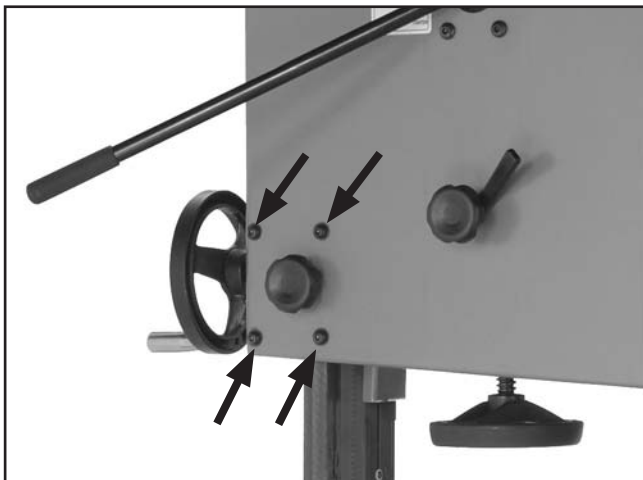
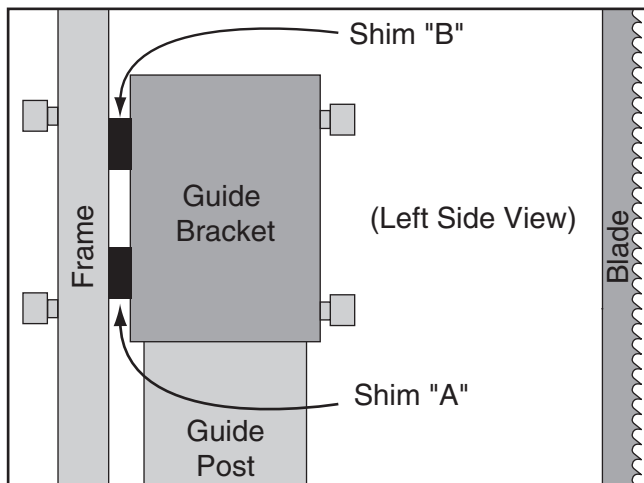

Figure 67. Guide post adjustment screws.
Figure 69. Location for placing shims.
7. Loosen each of the four screws shown in **Figure 67** ¼ turn.
9. Tighten the screws shown in **Figure 67**.
7. Loosen the four screws shown in **Figure 67** enough to fit metal shims between the frame and the guide post bracket (see **Figure 69**).
8. Tighten the four screws shown in **Figure 67**, then repeat **Steps 4–5**.